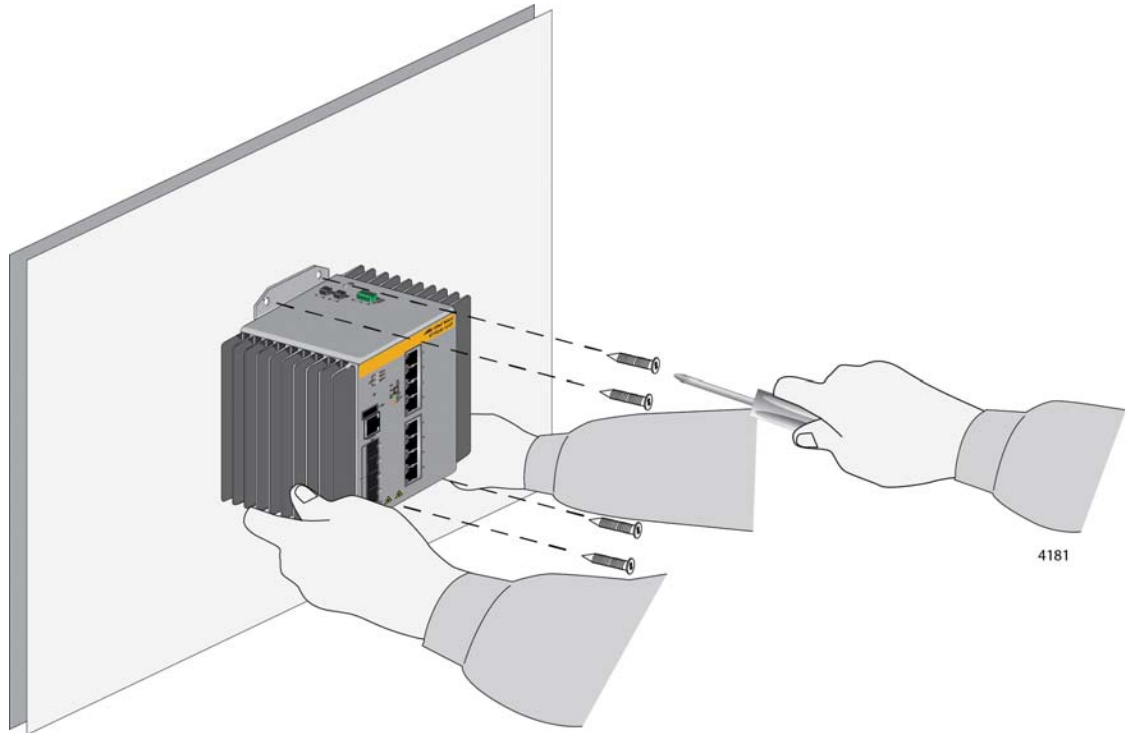

Figure 24. Installing the Switch on a Concrete Wall
7. Have another person hold the switch at the selected wall location while you secure it with four screws (not provided). Refer to Figure 24 on page 73.